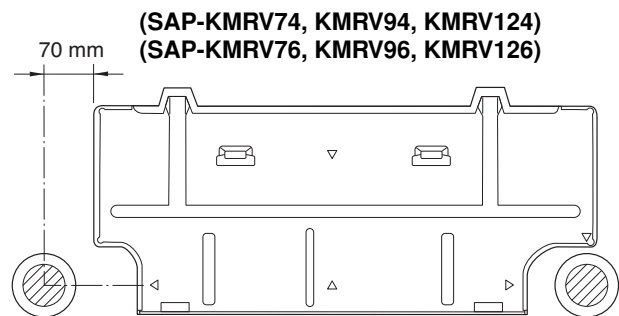

Fig. 9a
- (1) Place the rear panel from the indoor unit on the wall at the location selected. Make sure the panel is horizontal, using a carpenter’s level or tape measure to measure down from the ceiling. Wait until after cutting the hole before attaching the rear panel to the wall.
- (2) Determine which side of the unit you should make the hole for tubing and wiring. (Fig. 9a, 9b or 9c)
In the case of left-rear tubing, use the measurement points from the edge of the rear panel for precise placement of the hose outlet. (Fig. 9a, 9b or 9c)